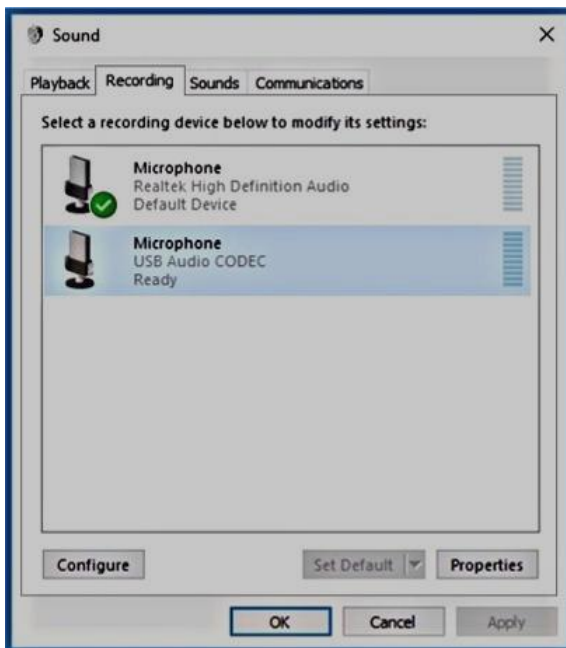

Figure 8 - Sound window Recording tab
- In the Sound window that opens, select the "Recording" tab as shown below in Figure 8. In the list of displayed recording devices, click one time on the Signalink's "Microphone - USB Audio Codec" sound card to select it (it should be highlighted). Next, click the "Properties" button.